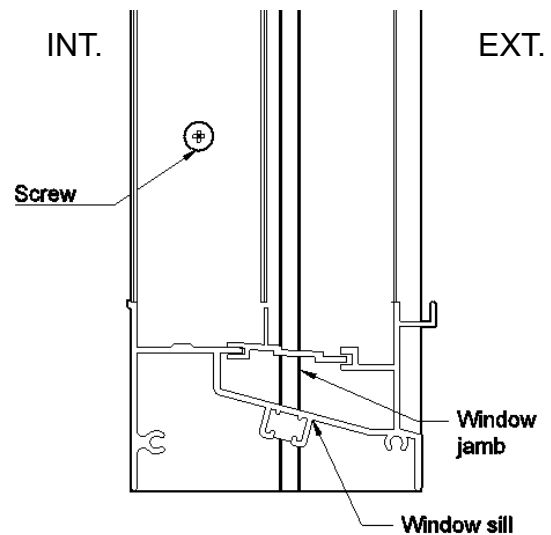

Figure 6: Side View of Jamb at Bottom
2.5 Fasten the jamb through the installation hole on both sides (refer to figure 6). Notice: do not over tighten the fasteners to distort the frame, and do not drill on the window sill/head to avoid water infiltration.